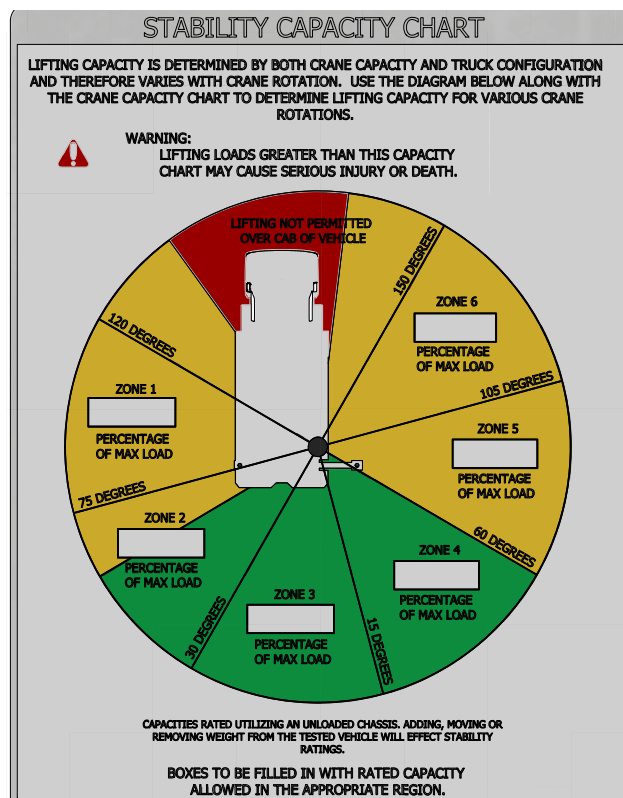

Figure 1-2.
1. Place crane in the Zone 1 position (see Figure 1-2).
3. If the crane is stable with full extension, 100% can be written in the data box for Zone 1 (see Figure 1-2).
7. Record the percentage of rated capacity in the data box for Zone 1 (see Figure 1-2). This is the revised load capacity for this zone due to stability of the service truck.